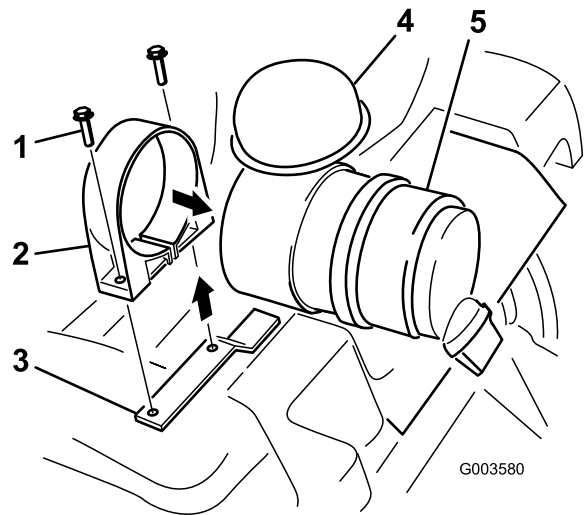

Figure 4
6. Open the air cleaner strap and pull it over the end of the canister where the filter was taken out (Figure 4).